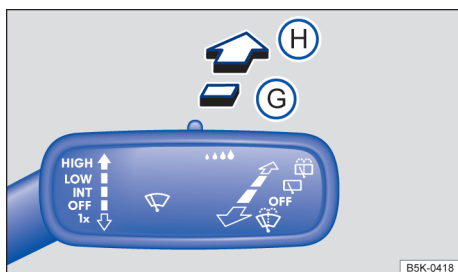

Fig. 81 Operating the rear wiper.
→ fig. 81, → ①:
- ⑧ Intermittent wiping for the rear window. The wiper wipes about every 6 seconds.
- ⑨ Press the lever forward as far as it will go to activate the rear window washers, then release to stay in intermittent wiping mode (position ⑧). Pull the lever toward the steering wheel to turn the rear wiper off.